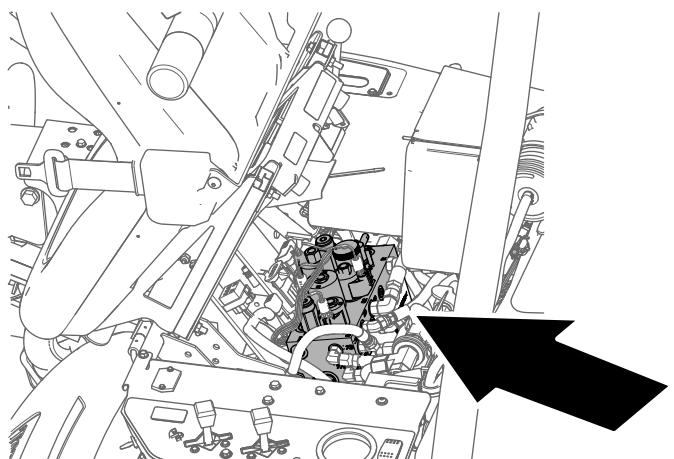

Figure 52
2. Tilt the operator's seat forward and support it with the prop rod (Figure 52).